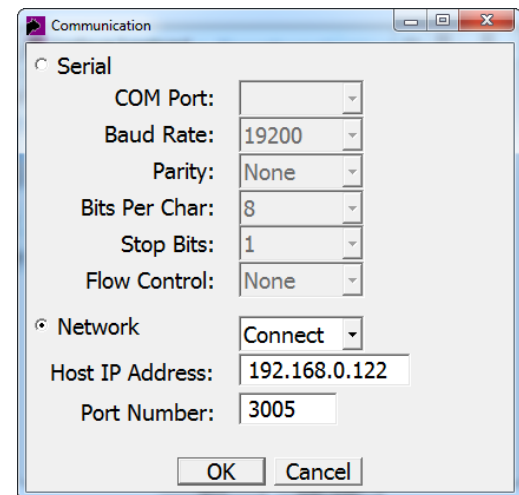

Figure 76: Scoreboard Communication
5. Click **Communication**. In the *Communication* window, click **Network** and select the correct settings as shown below and in **Figure 76**: